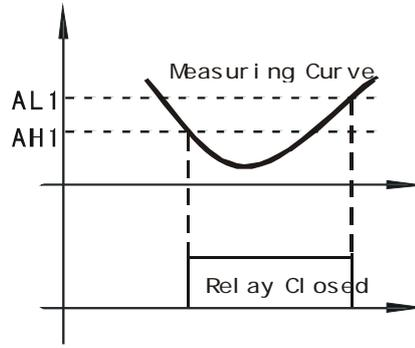

Figure 5
- c) Set AH1<AL1: Normally used for lower limit alarm trigger. See Figure 5.